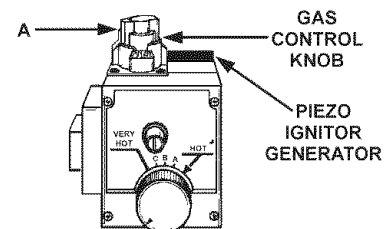

FIGURE 18.
7. Turn the gas control knob "A" to "PILOT". Depress knob slightly and rotate to "OFF" position, see Figure 18.